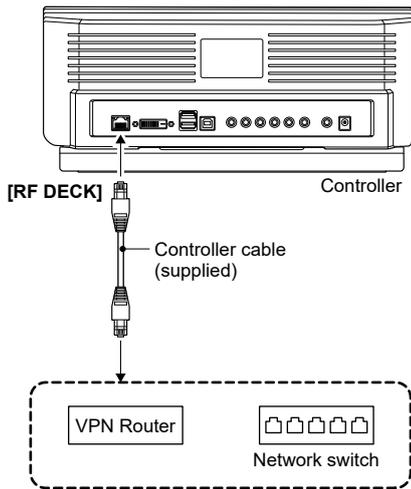

Figure 09-31. Connection with network switch or VPN router (2)
- 6). Move the Controller and controller cable to the remote operation location and connect them to the network switch or VPN router (LAN side) at the remote operation location. (Figure 09-31).